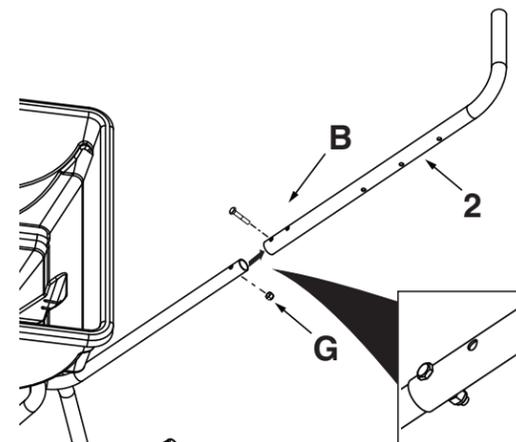

Figure 13
STEP 13: (SEE FIGURE 13)
- Attach the handle tube (2) to the lower handle tube using a 1/4" x 1-1/2" hex bolts (B) and 1/4" nylock nuts (G). Line up the lower hole of the handle tube (2) and the upper hole of the lower handle tube. Tighten hardware.